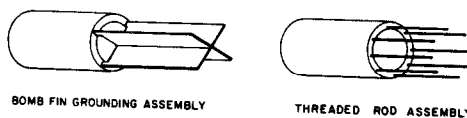

Figure 5
8. Two proven types of flame grounding adapters as shown in Fig. 5 may be used to provide adequate grounding surface. High temperature stainless steel should be used to minimize the effect of metal oxidation. This assembly may be welded directly over the pilot or main burner nozzle.